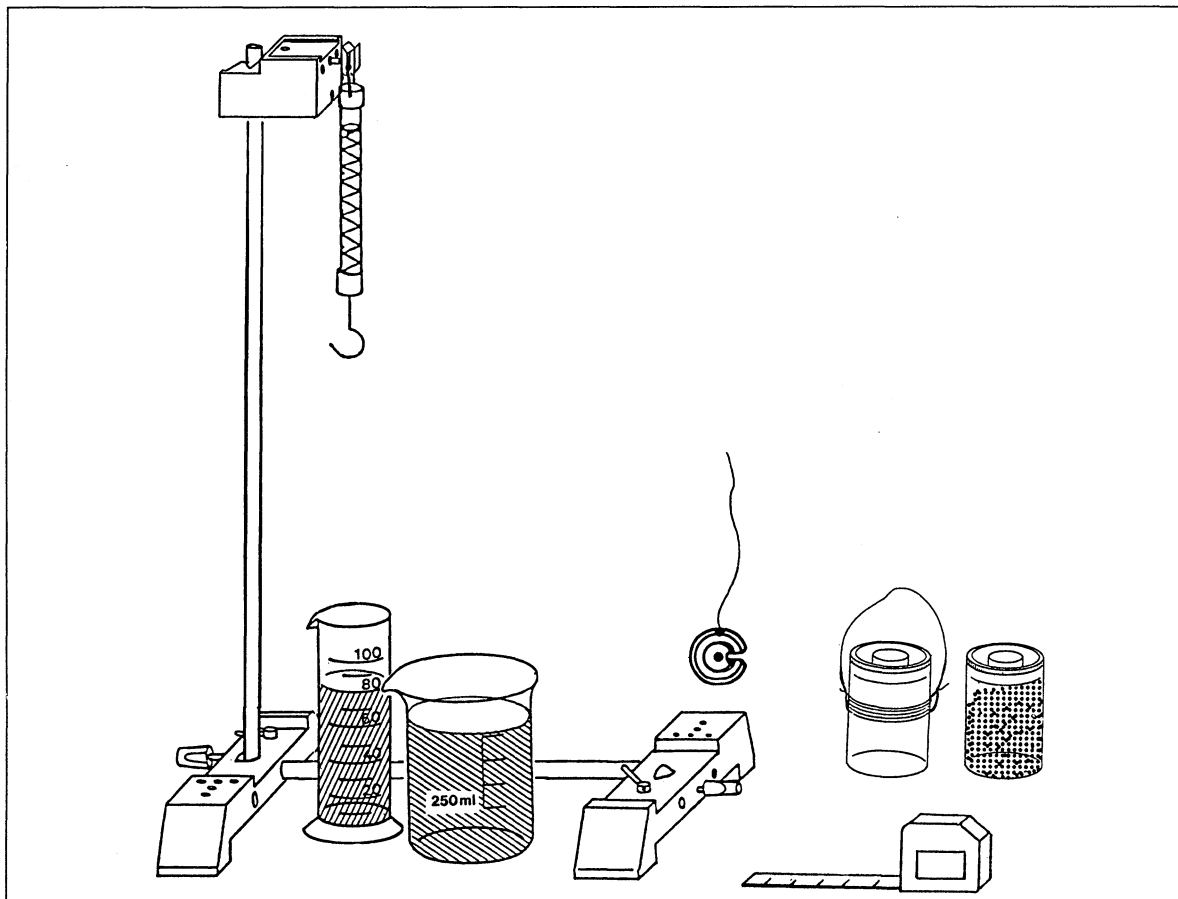

Fig. 1 Setup for investigating buoyancy force.
1. Set up the stand as shown in fig. 1. Attach the dynamometer to the sleeve block using the retaining clip.